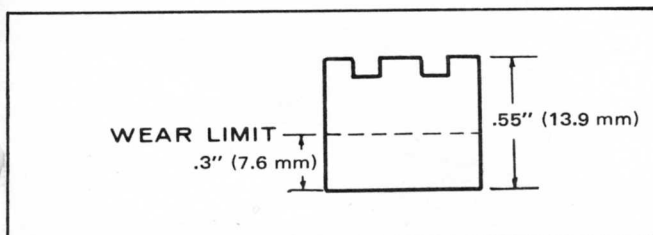

FIGURE 66. BRUSH WEAR LIMIT
8. **Inspection of Brushes:** When brushes are worn more than .3" (7.6 mm) they are to be replaced. Figure 66 shows the wear limit. See that the brushes move smoothly in the brushholders.